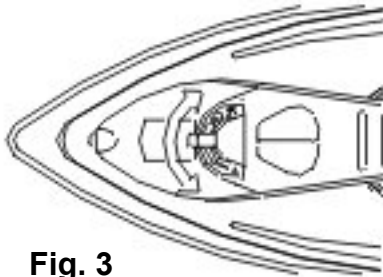

Fig. 3
- Set the variable steam control (2) TO "0". (Fig. 3)
- Make sure that the iron is resting on top of the rubber mat (10).